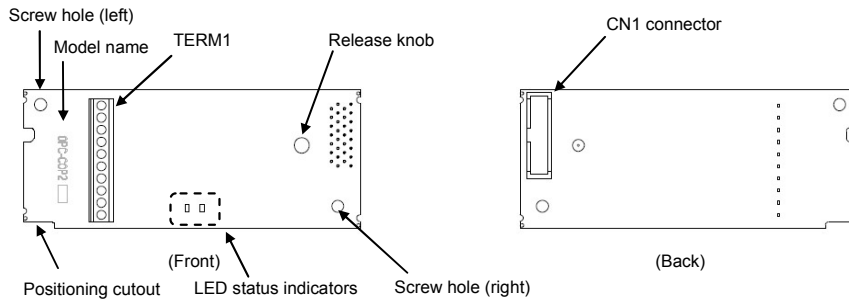

Figure 2.1 Names of Parts on CANopen Communications Card
- (1) A communications card, two screws (M3 × 8), and the CANopen Communications Card Instruction Manual (this manual) are contained in the package.
- (2) The communications card is not damaged during transportation—no defective parts, dents or warps.
- (3) The model name "**OPC-COP2**" is printed on the communications card (see Figure 2.1).
Figure 2.1 shows the names of the parts on the CANopen communications card.
- (2) Insert connector CN1 on the back of the communications card (Figure 2.1) into the option connection ports. Then secure the communications card with the two screws that come with the card. (Figure 3.2)
**Note** Check that the positioning cutout (shown in Figure 2.1) is fitted on the tab (① in Figure 3.1) and connector CN1 is fully inserted (② in Figure 3.1). Figure 3.2 shows the communications card correctly mounted.